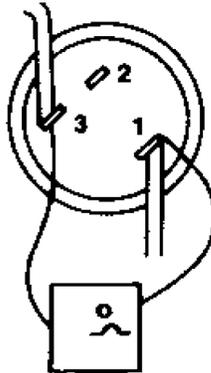
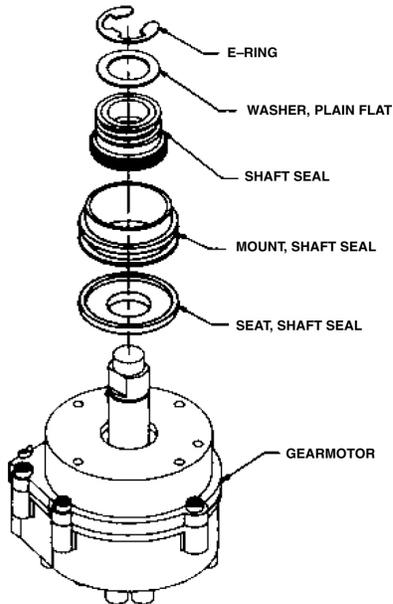
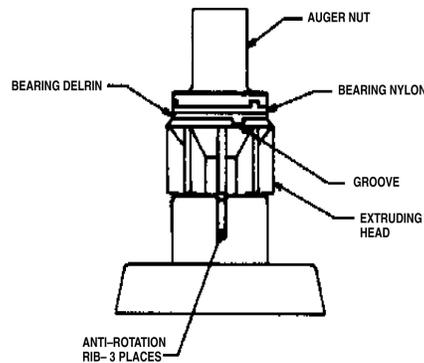

Figure 4. Output Shaft
Figure 5. Shaft Seal Replacement
Figure 6. Extruding Head
3. Problems in the gear motor electrical circuit. See Figure 4.
3. Check terminals 1 and 3 on overload. No continuity replace overload. Use a volt-ohm meter. See Figure 4 and Figure 5.
The resistance readings on the windings will be between 5 to 25 ohms. A meter capable of these low readings must be used. The Start Relay cover must be removed. NOTE: Gear motor and related components can be checked from Pin Connector. See Figure 5 and Figure 6.
INSTALLATION AND SHAFT SEAL REPLACEMENT (See Figure 5)
OVERLOAD CHECK (See Figure 4)